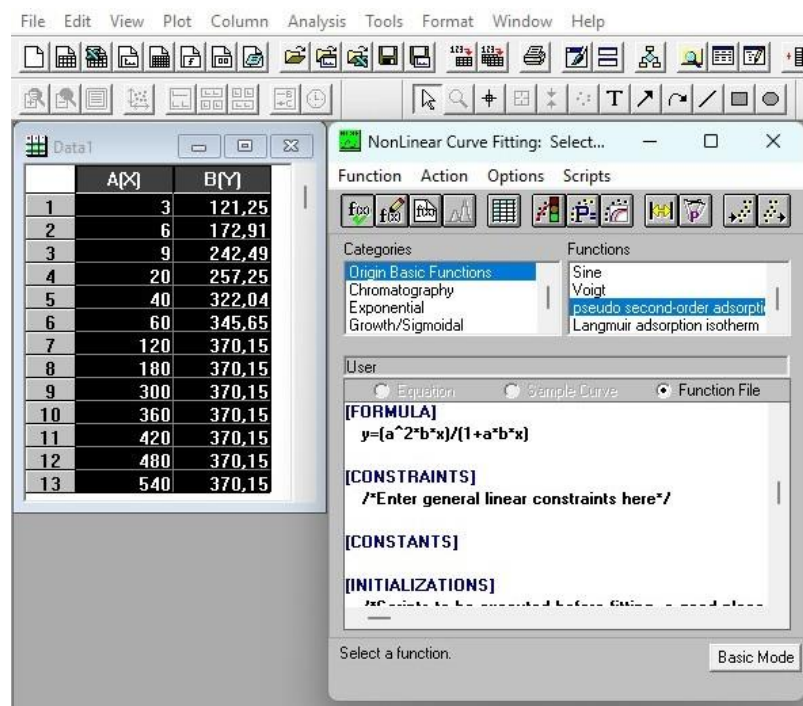

Figure 17S. Choosing the model function
3. Choose the model: a dialog window will open, where you can choose the appropriate fitting model (Figure 17S).